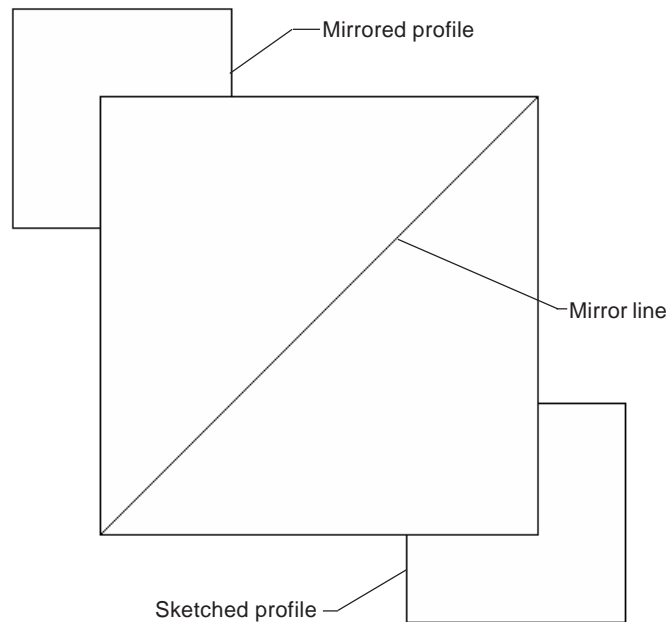

Figure 9-42 *Creating a mirror copy of the sketched profile*
22. Draw a line from the top right corner to the bottom left corner of the central square to define the mirror line. The profile is mirrored to the diagonally opposite corner of the square, as shown in Figure 9-42.